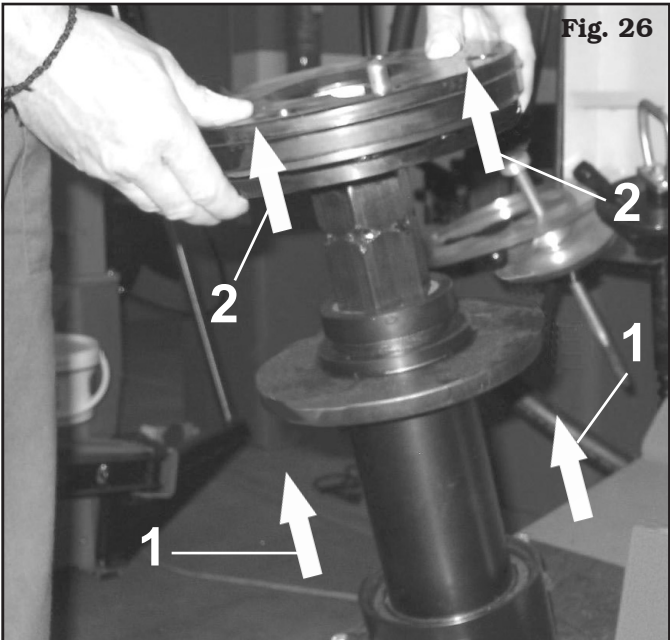

Fig. 26
- 1- Lift the flange as indicated by the arrows (**Fig. 26 ref. 1**).
- 2 - At the same time release and then lift the wheel support as indicated by the arrows (**Fig. 26 ref. 2**).